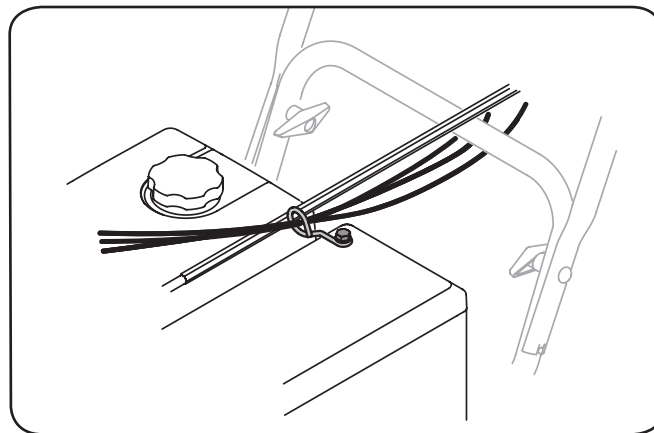

Fig. 3-8
- Check that all cables are properly routed through the cable guide on the right side of the chute crank rod. See Fig. 3-8.